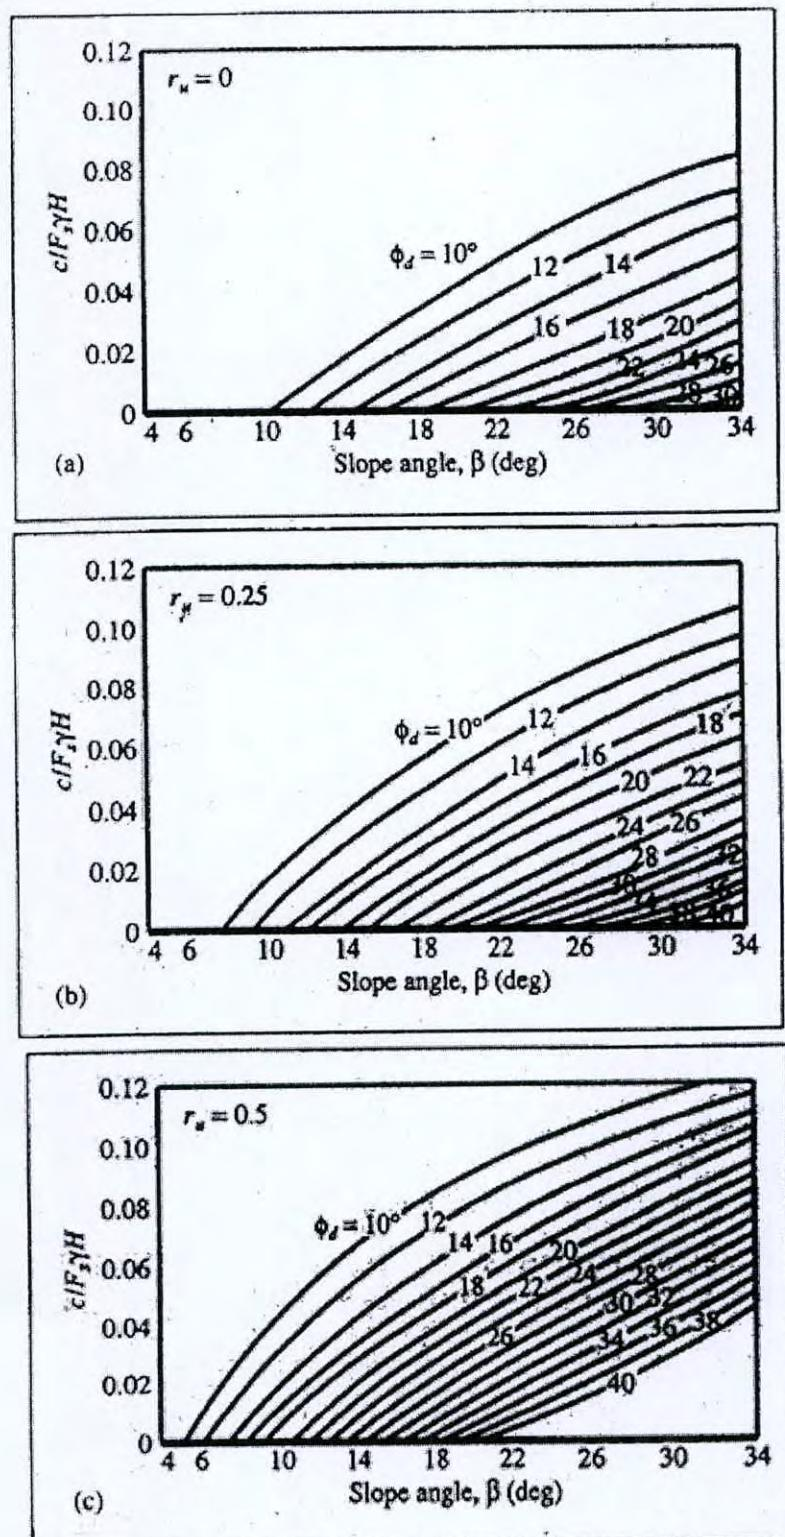

Fig. 5. Charts for using Spencer's solution for slope stability analysis.
- (b) Mention the advantages and limitations of CPT and SPT. (8)
- (c) What should be the contents of a good soil exploration report? – Discuss (9)
- (d) Compare ‘wash boring’ and ‘percussion drilling’ methods. (8)
7. (a) For a given slope: $\gamma = 105 \text{pcf}$, $\phi = 20^\circ$, $c = 400 \text{ psf}$, $r_u = 0.4$ and $\beta = 20^\circ$. Determine the factor of safety using Spencer’s solution. Charts for Spencer’s method are given in Fig. 5. (12)
- (b) What is the basic difference between Bishop’s simplified method of slices and Spencer’s solution for analysis of slope stability. (5)
- (c) Explain ‘area ratio’ and ‘inside clearance ratio’ that are used to indicate the degree of sampling disturbance of tube samples. (6)
- (d) Write down Terzaghi’s Bearing Capacity Equation for net ultimate bearing capacity for $c - \phi$ soil. Discuss all the terms of the equation. (12)
8. Calculate the allowable capacity of the foundation with factor of safety 2.5. Calculate the settlement of the footing if the load on footing is 250 kip. (35)